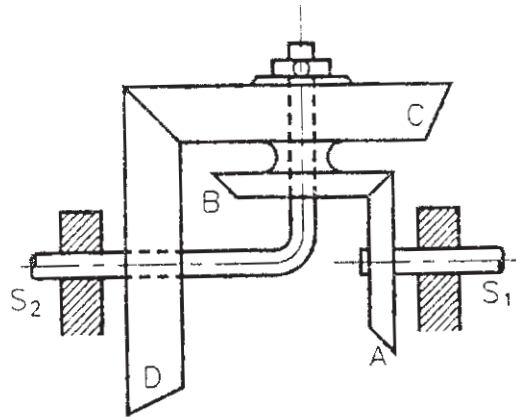

Fig 3a
- Q3)** a) In an epicyclic gear as shown in fig 3a the wheel A fixed to S_1 has 30 teeth and rotates at 500 rpm. B gears with A and fixed rigidly to C, both being free to rotate on S_2 . The wheels B, C and D have 50,70, and 90 teeth respectively. If D rotates at 120 rpm in a direction opposite to that of A, find the speed of the shaft S_2 . [10]